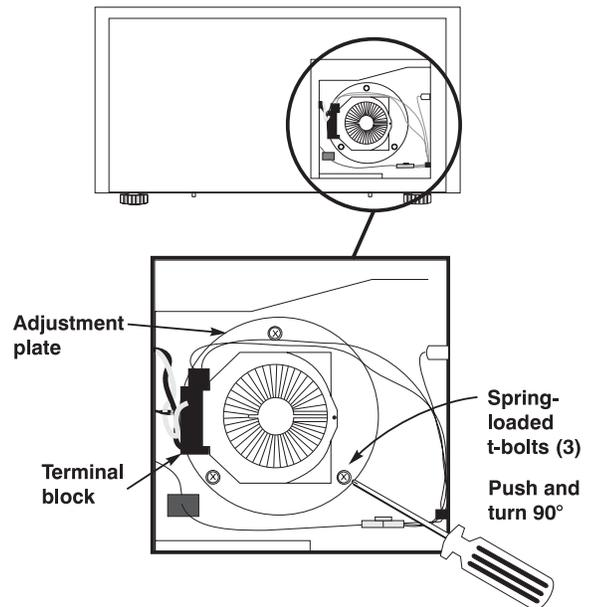
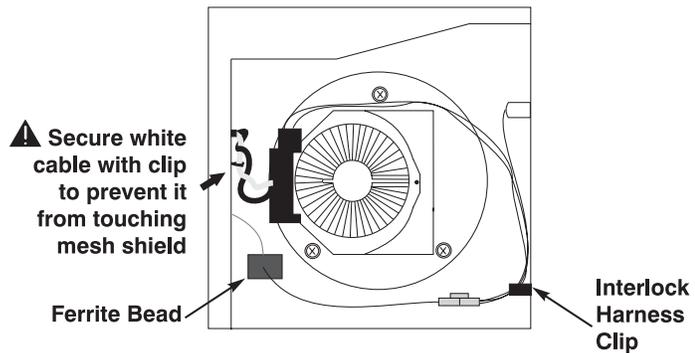

Figure 4.3. Loosen the spring-loaded T-bolts
Figure 4.5. DX Lamp Orientation and Lead Dressing
- Insert the new lamp module into the lamp compartment. Looking into the lamp compartment, the terminal block should be located at approximately “9 o’clock”, i.e., roughly centered and on the side of the lamp facing the projector rear. Refer back to Figure 4.3 and Figure 4.5.